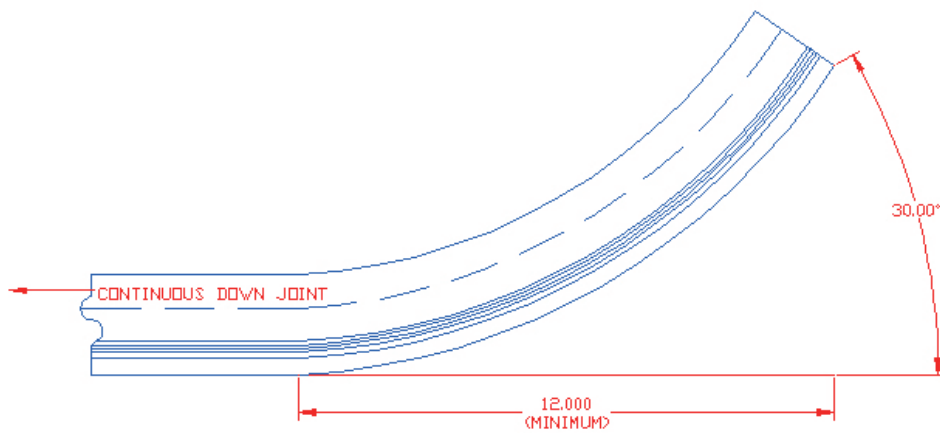

Figure 1 – Installed seal with 30° upturn
- Use backer rod to form the slope. The seal should be installed as in Figure 1. Install seal per the standard installation instructions.